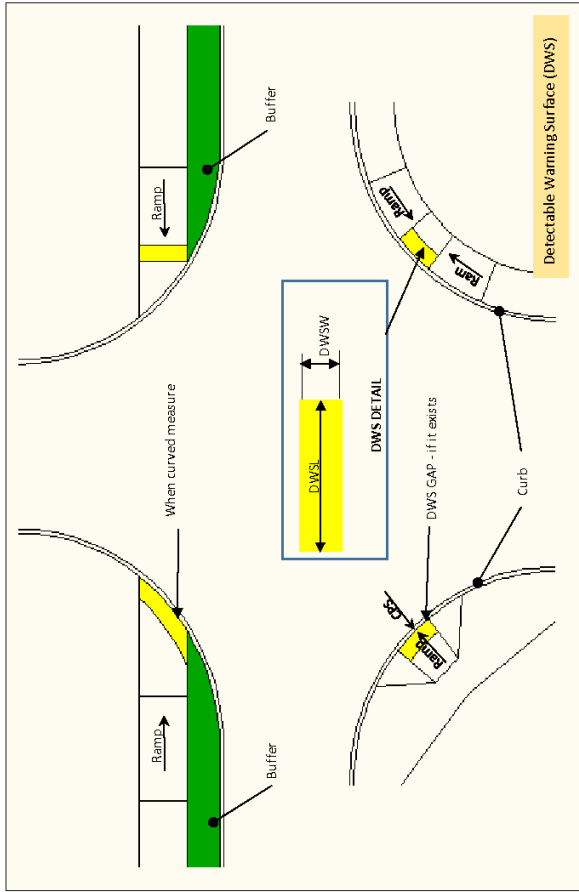

FIGURE 3
- DWS: Detectable Warning Surface, see Figure 3